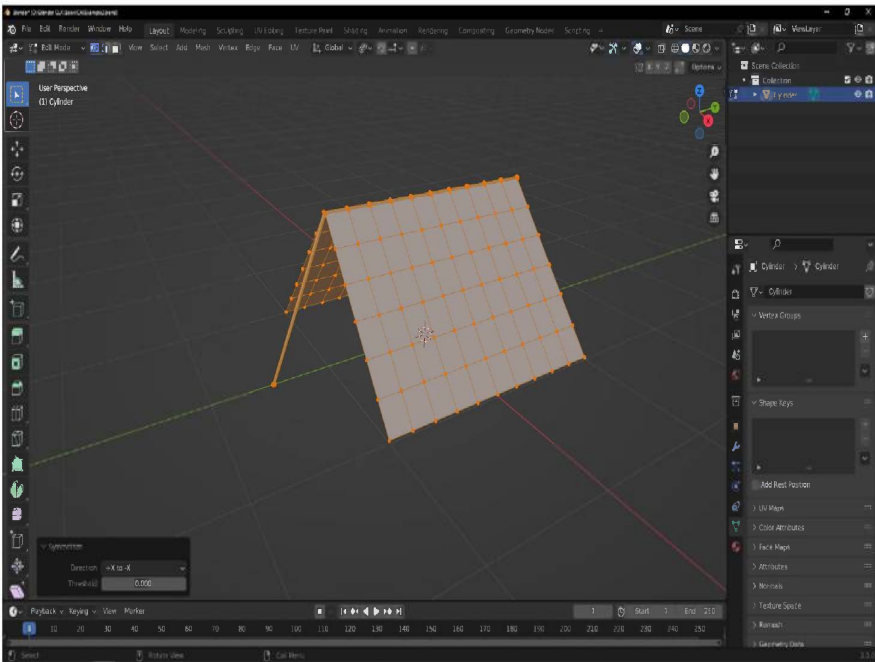

Figure 9.14: Even quad subdivisions inserted via Ctrl + R and Symmetrized
25. Select all, and under the **Mesh** menu choose **Symmetrize** again, and in the contextual menu switch the Direction to **+X** to **-X** as shown in *Figure 9.14*: